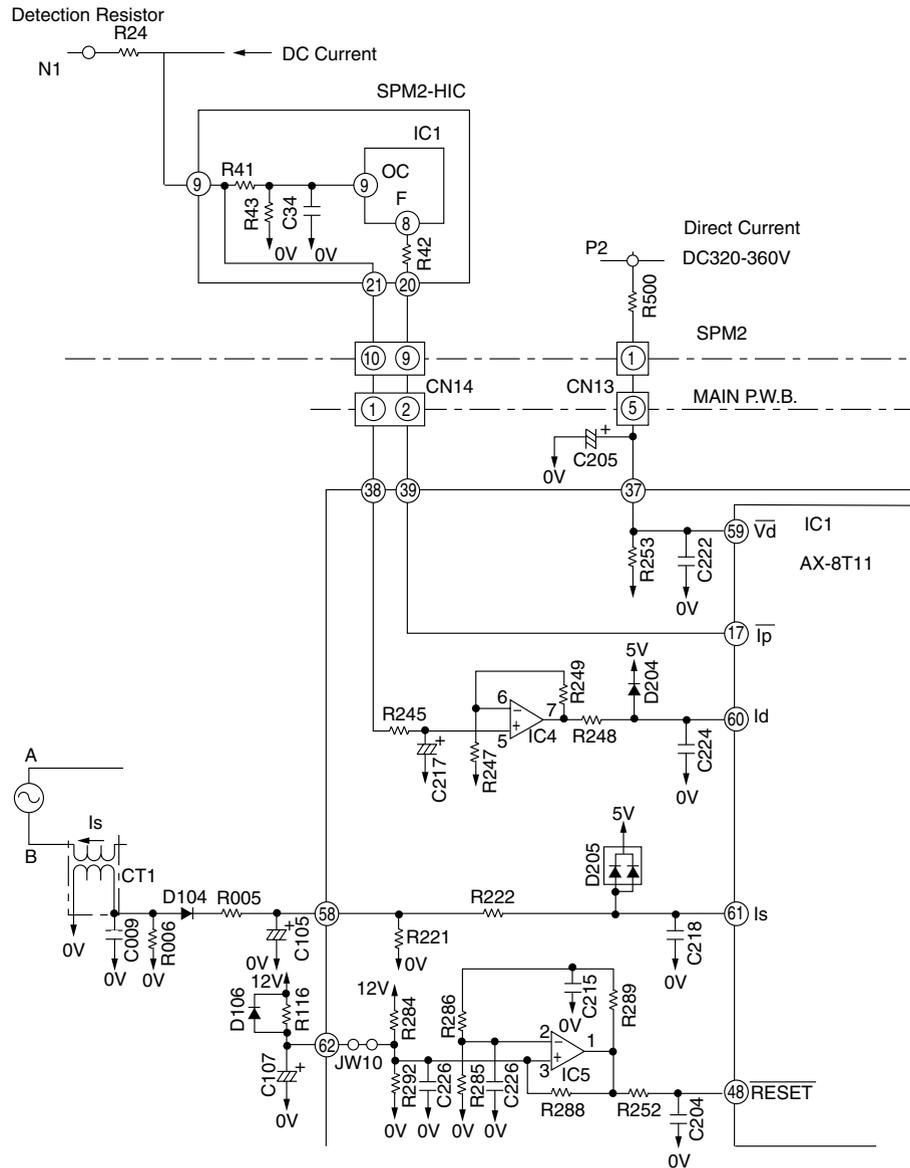

Fig. 7-1 Microcomputer (AX-8T11) and Peripheral Circuits
- Fig. 7-1 shows the microcomputer and its peripheral circuits, Table 7-1, the basic operation of each circuit block, and Fig. 7-2, the system configuration.